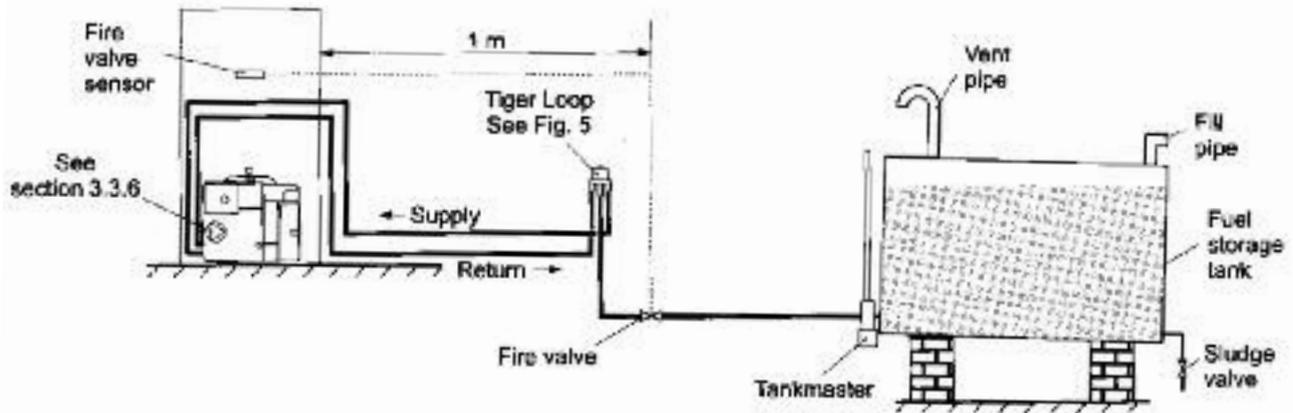

Fig. 4- Tiger loop system
3.3.5 Tiger Loop system (See Figs. 4 & 5)
- 2 The Tiger Loop is connected close to the boiler as a two pipe system (omitting the non-return valve) as shown in Fig. 4. Refer to the manufacturer's instructions supplied with the Tiger Loop. The Tiger Loop **must** be mounted vertically.